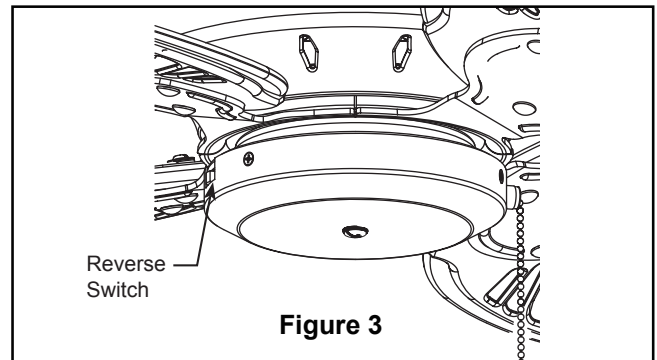

Figure 3
3. If airflow is desired in the opposite direction, turn the fan off and wait for the blades to stop turning. Slide the reverse switch on the switch cup assembly to the opposite position and turn fan on again. (Figure 3)